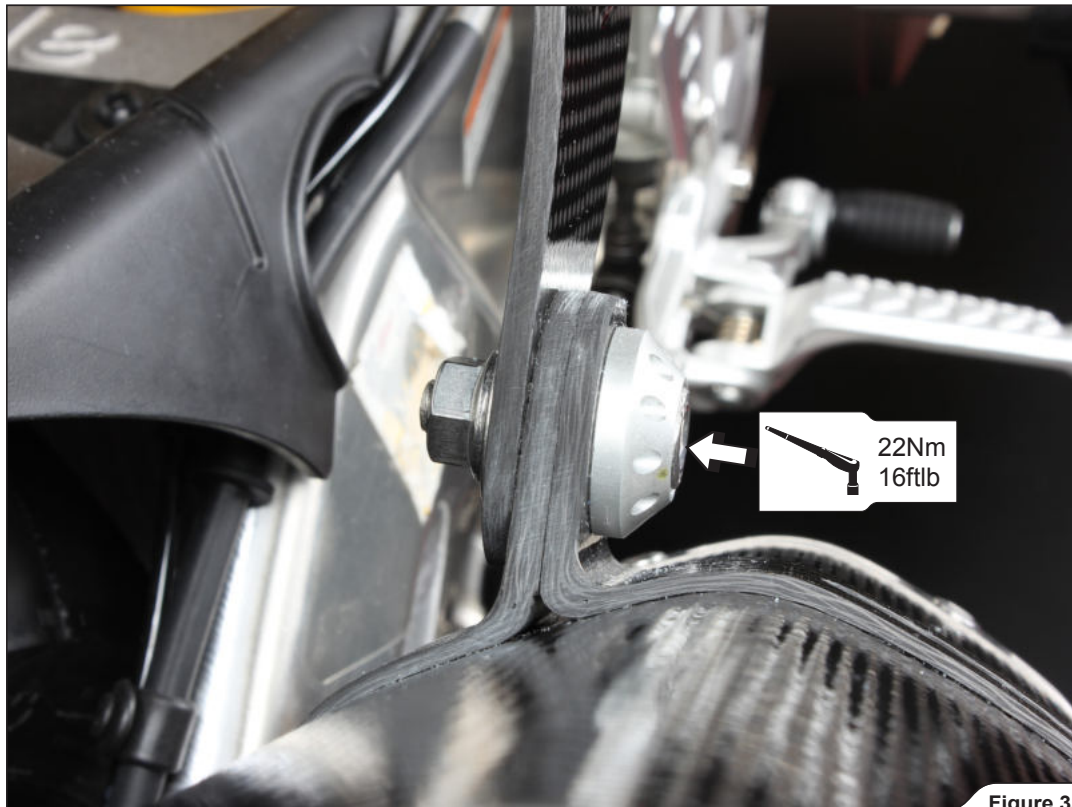

Figure 33
16. Align the muffler in respect to the motorcycle and tighten the muffler's bracket bolt to the specified torque (Figure 33).